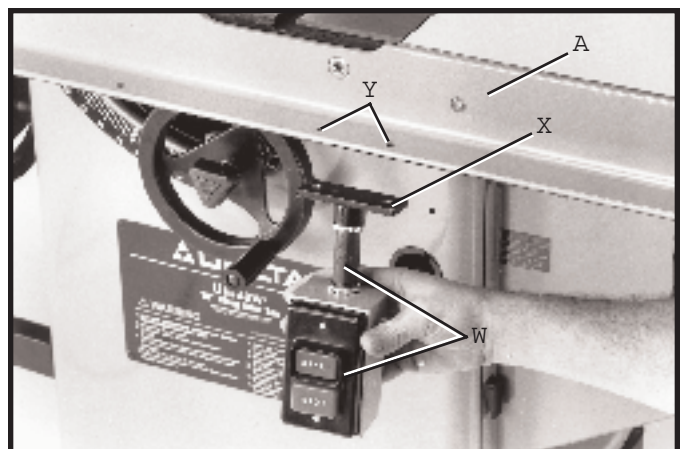

Fig. 19
16. Figure 19 illustrates the switch and nipple (W) assembled to the switch adapter (X). The switch adapter will be fastened to the front rail (A) and guide tube through holes (Y) in the front rail after the guide tube is fastened to the front rail (A).